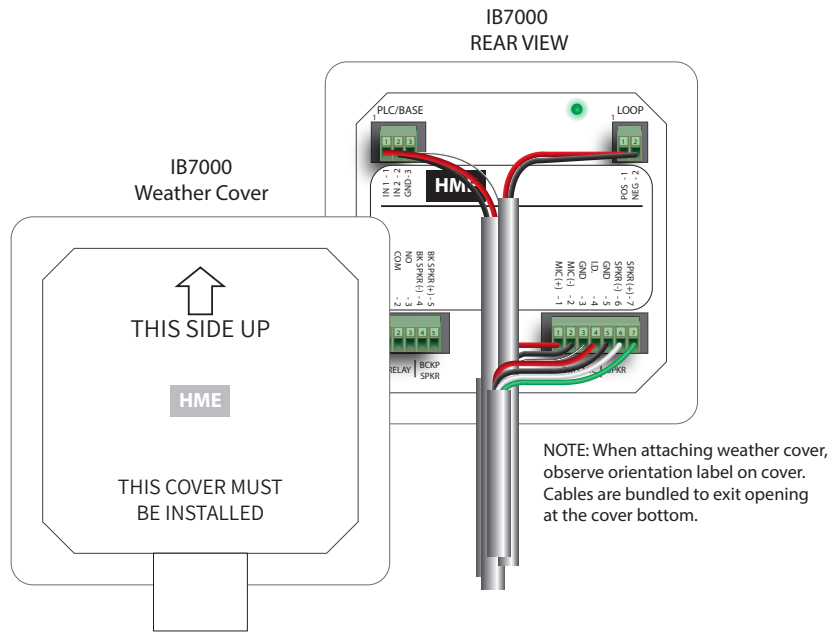

Fig. 7.2
The **IB7000** interface box is required when connecting the **DM5** microphone and **SS7000** speaker or **SP10** speaker to **NEXEO**. Adhesive strips allow the **IB7000** to be affixed to a clean, dry surface inside the speaker post. The max **IB7000** cable length to guarantee operation at max volume should not exceed 500 ft (152 m). Fig. 7.2 and Fig. 2.12 (on page 10) show how the **IB7000** is typically connected.
Note: The cover must be oriented and installed correctly to be effective (see Fig. 7.2).
1. Orient the weather cover correctly before installing (see the up arrow on the cover rear, Fig. 7.2 & 3).